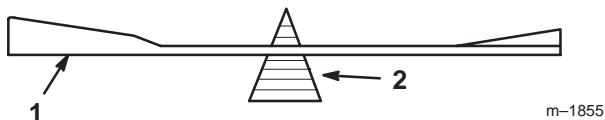

Figure 28
2. Check the balance of the blade by putting it on a blade balancer (Fig. 28). If the blade stays in a horizontal position, the blade is balanced and can be used. If the blade is not balanced, file some metal off the end of the sail area only (Fig. 26). Repeat this procedure until the blade is balanced.